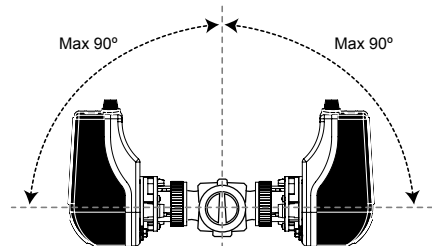

Figure 4
**6** Then place the actuator on the valve adaptor and turn clockwise 30°, until a “click” is heard. Please do not mount the actuator more than 90° from vertical (figure 4).